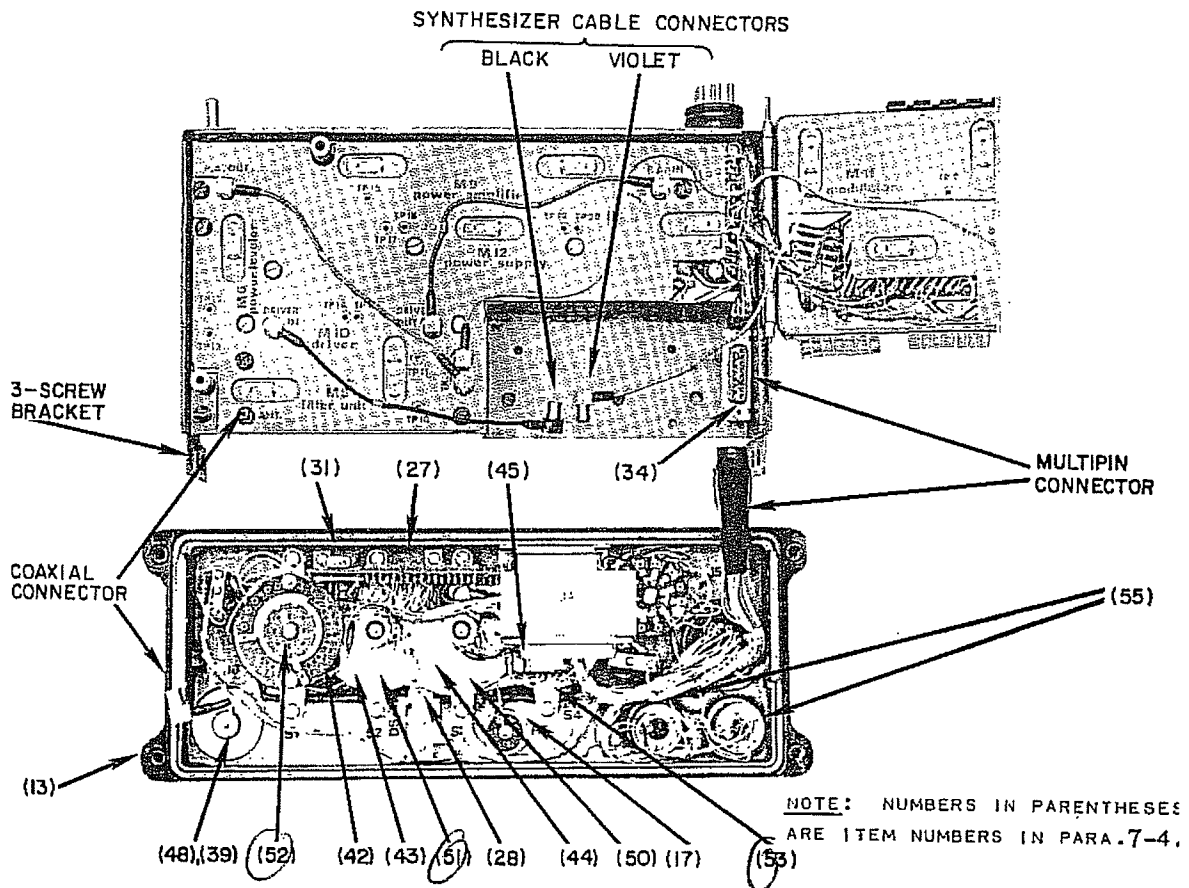

Figure 5-5. Front Panel Removed from Receiver-Transmitter RT-6241T
- (g) Replace the case as described in para. (1) (g) above.
(5) Removal and Replacement of Synthesizer
- (d) Pull out the synthesizer and disconnect the coaxial cables (fig. 5-5).
- (f) Replace the case as described in para. (3) (g).
- (6) Removal and Replacement of RT-6241T Front Panel
- (b) Remove the synthesizer modules as in (5) above.